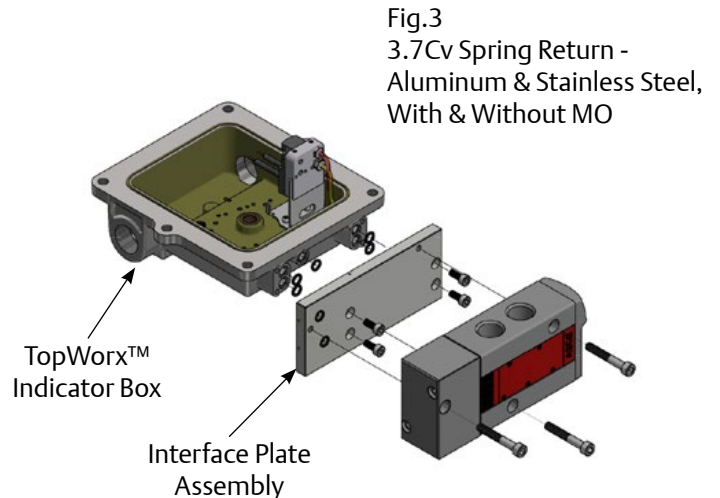

Fig.3
The MO is indicated with symbol (H) in Figure 3. MO provides manual operation when desired or during an electrical power outage. Refer to figure 4 for MO Operation. To engage valve manually, insert a screwdriver into arrow slot, push the MO forward till it stops and then rotate it as far as possible to "2". Valve will now be in the same position as when the solenoid is energized. To disengage MO, rotate arrow slot as far as possible to "0".